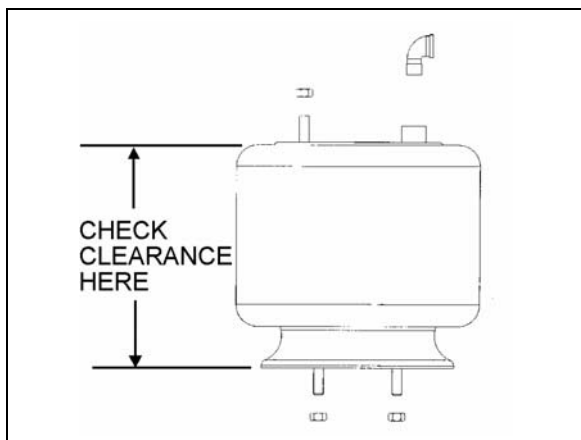

FIGURE 41: TYPICAL AIR SPRING CLEARANCE 16058
The appropriate vehicle body height is obtained by measuring the clearance of all the air springs installed on the vehicle. The two front air springs clearance should be  $11 \pm \frac{1}{4}$ " ( $279 \pm 6$  mm). Refer to figure 41 to identify the correct area to take measurement. The rear air springs clearance should be  $11 \frac{1}{2} \pm \frac{1}{4}$ " ( $292 \pm 6$  mm) (refer to paragraph "8.0 Suspension Height Adjustment" for rear height control valves' adjustment). At this point, it should not be necessary to make an adjustment under normal service conditions. However, if an adjustment is required, change the position of the overtravel lever in relation to the overtravel control body. The lever should be moved up to raise vehicle height, and down to lower it. Check that main air pressure is at normal operating pressure and raise the vehicle to the specified height.
**Note:** The measurement should be taken from underneath the upper air spring support on subframe to top of the lower air spring support on axle (refer to figure 41 for more details). If adjustment is required, begin with the drive axle.
The appropriate vehicle body height is obtained by measuring the clearance of all the air springs installed on the front and drive axles. The clearance should be  $12 \pm \frac{1}{4}$ " ( $305 \pm 6$  mm) for the air springs installed on the front I-beam axle and  $11\frac{1}{2} \pm \frac{1}{4}$ " ( $292 \pm 6$  mm) for those installed on the drive axle. Refer to figure 41 to identify the correct location where the measure has to be taken. At this point, it should not be necessary to make an adjustment under normal service conditions. However, if an adjustment is required, change the position of the overtravel lever in relation to the overtravel control body. The lever should be moved up to raise the height of vehicle and down to lower it. Check that main air pressure is at normal operating pressure and raise the vehicle to the specified height.
**Note:** The measure should be taken from under the upper air spring support on subframe to top of the lower air spring support on axle (refer to figure 41 for more details). If adjustment is required, begin with the drive axle.